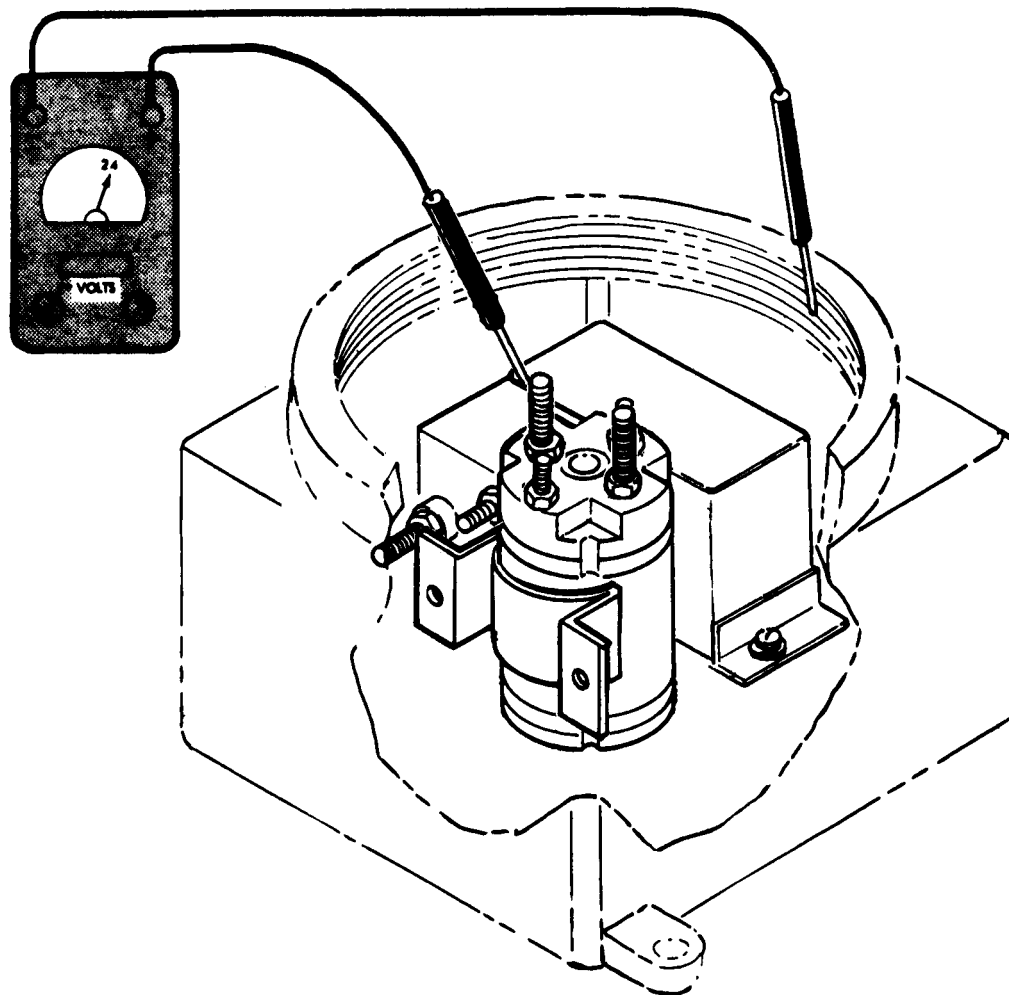

Figure 4-18.8. K-1 Relay Test.
(2) Step 2. (See figure 4-18.8.)